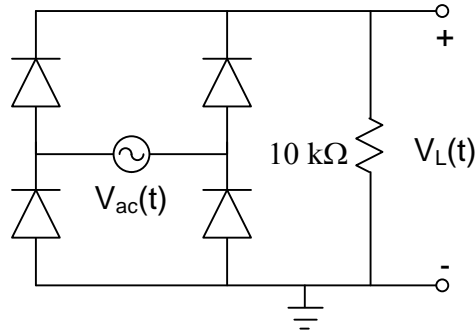

Fig 4. Full Wave Bridge Rectifier
Full Wave Bridge Rectifier: The circuit shown in Fig. 4 is a full wave rectifier. As discussed in class, the resistor shown in the circuit conducts current during both the positive and negative cycles of the sinusoidal input. Note that the peak voltage drop across the resistor is $V_m - 2V_D$, where V_m is the maximum amplitude of the sinusoidal input and V_D is the voltage drop across the diode.
To build the circuit shown in Fig. 4, the trigger from the function generator to the oscilloscope must be disconnected. Also, DC couple the output to the oscilloscope to see the rectified output average and peak-peak values.
5. Construct the circuit of Fig 4 in PSpice. Run a transient simulation using a sinusoidal source with 5 V amplitude and 1 kHz frequency. Plot the voltage drop across the resistor and include it in your report. What is the peak voltage drop across the resistor? How does the circuit performance differ from the one in step 3?